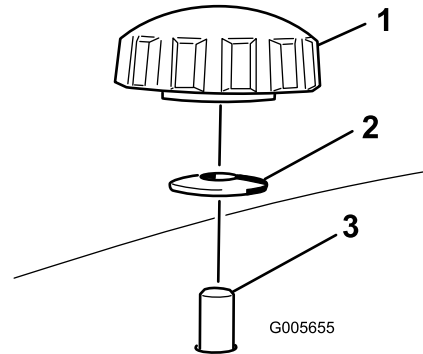
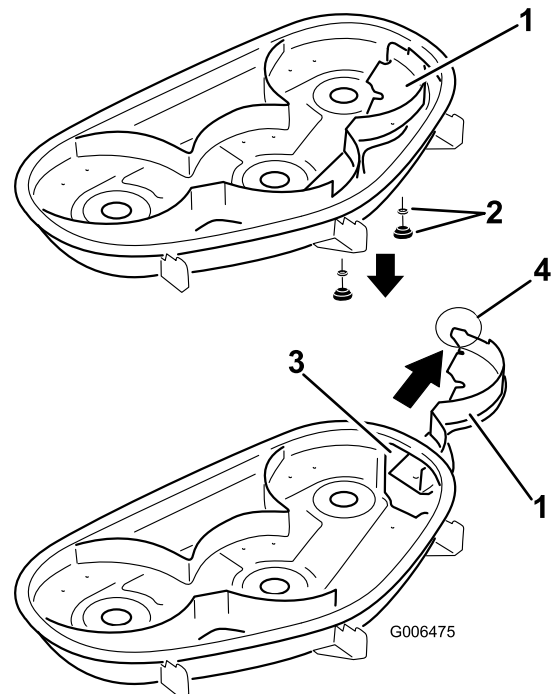

Figure 25
Figure 26
4. Remove the 2 knobs and curved washers that secure the right baffle to the mower as shown in Figure 25.
5. Remove the right baffle and lower the grass deflector over the discharge opening as shown in Figure 26 and Figure 25.
4. Slide the right baffle through the discharge opening and secure it using 2 knobs and curved washers (cupped side facing the mower) as shown in Figure 25 and Figure 26.